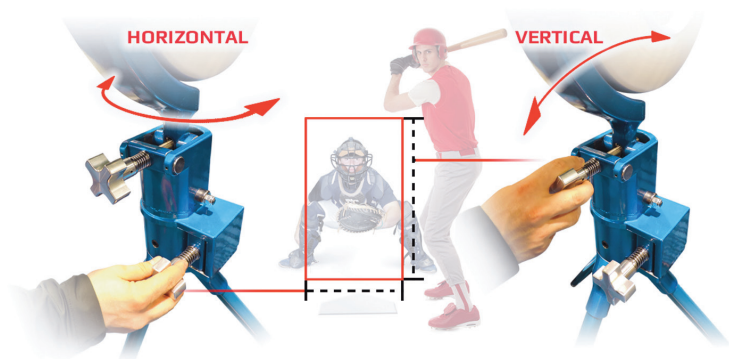

Figure 4b. Micro-Adjustment Knobs
6. Have all batters and observers stand well clear of the target as you throw practice balls. **To adjust trajectory, use the Vertical Micro-Adjustment Knob. To adjust in and out (right or left), use the Horizontal Micro-Adjustment Knob** (see figure 4b.) It is normal to throw five or six balls before arriving at the setting you desire. Always have the batter stand clear while adjusting your JUGS pitching machine.